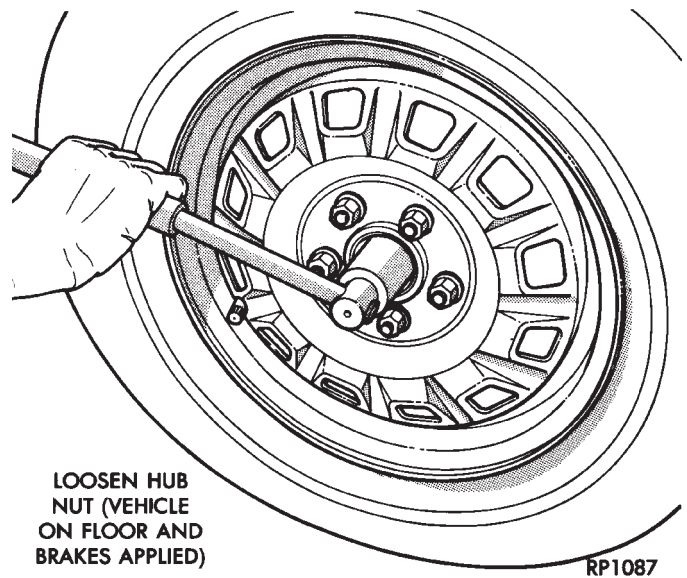

Fig. 4 Loosen Hub Nut
(2) Loosen hub nut while the vehicle is on the floor with the brakes applied (Fig. 4). **The hub and drive-shaft are splined together through the knuckle (bearing assembly) and retained by the hub nut.**
(3) Raise vehicle, see Hoisting Recommendations in